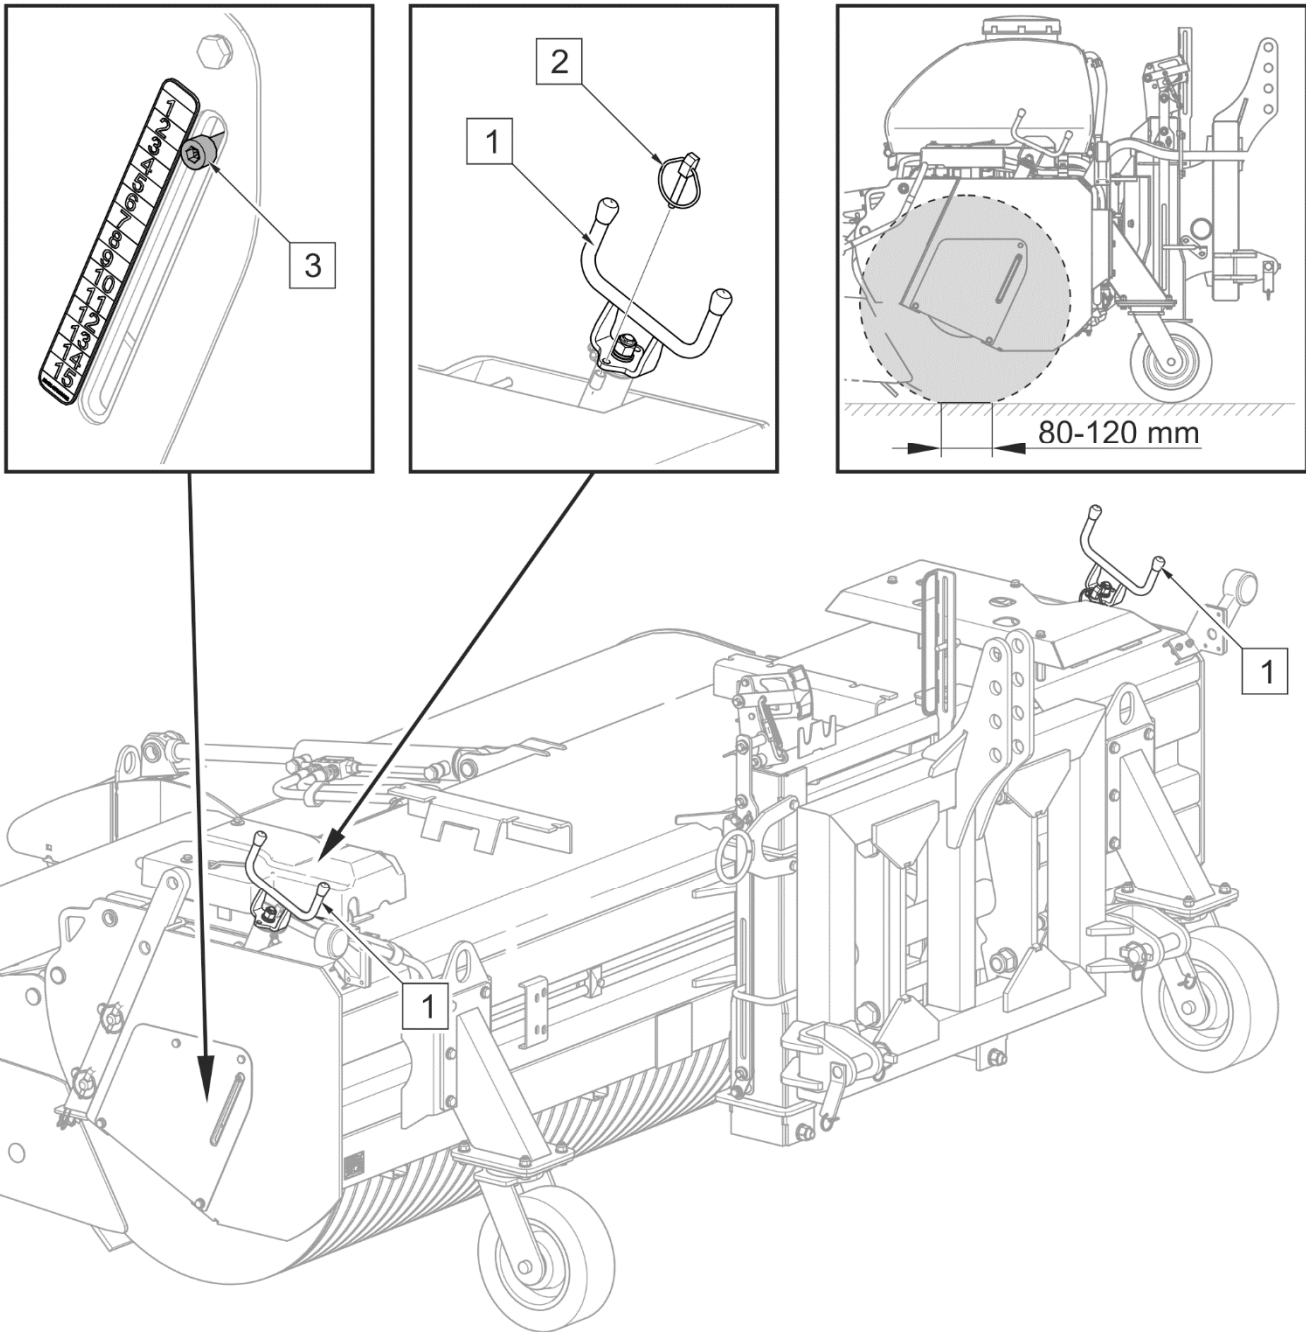

FIGURE 5.1 Adjustment of brush pressure
(1) - brush height adjustment knob; (2) - securing cotter pin; (3) - brush position indicator
Proper adjustment of brush pressure ensures efficient sweeping, uniform wear and long service life of the brush. When setting the brush, take its wear into account. The width of brush ground contact surface (FIGURE 5.1) should be in the range from 80 to 120 mm. Knob (1) of the bolt mechanism located on both sides of the machine enables smooth adjustment of brush position. Take out securing cotter pin (2) before the adjustment. The brush pressure on the right and left side of the machine should be the same. Indicator (3) facilitates the adjustment. Uneven adjustment of the brush pressure on the right and left side of the machine causes uneven wear of the brush and may cause damage to the machine.
adjustment knobs (FIGURE 5.1). The waste tank can be raised and locked in order to facilitate the brush dismounting. Before replacing the roller brush, make sure that the sweeper is disconnected from the carrying vehicle's hydraulic system and that the residual pressure in the hydraulic system is reduced.